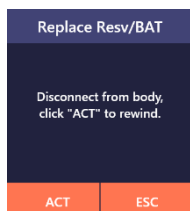

Figure 10.1
(1) Disconnect from body (as shown in Figure 10.1). Click “ACT” to rewind the push rod and the user can continue to replace the reservoir, or click “ESC” to return to the “More” interface.